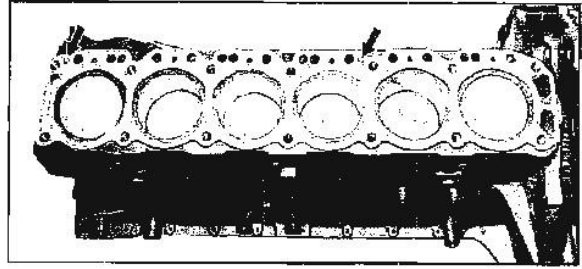

Fig. 6-22 Installing Head Gasket
1. Place a new cylinder head gasket in position over dowel pins in cylinder block (Fig. 6-22).